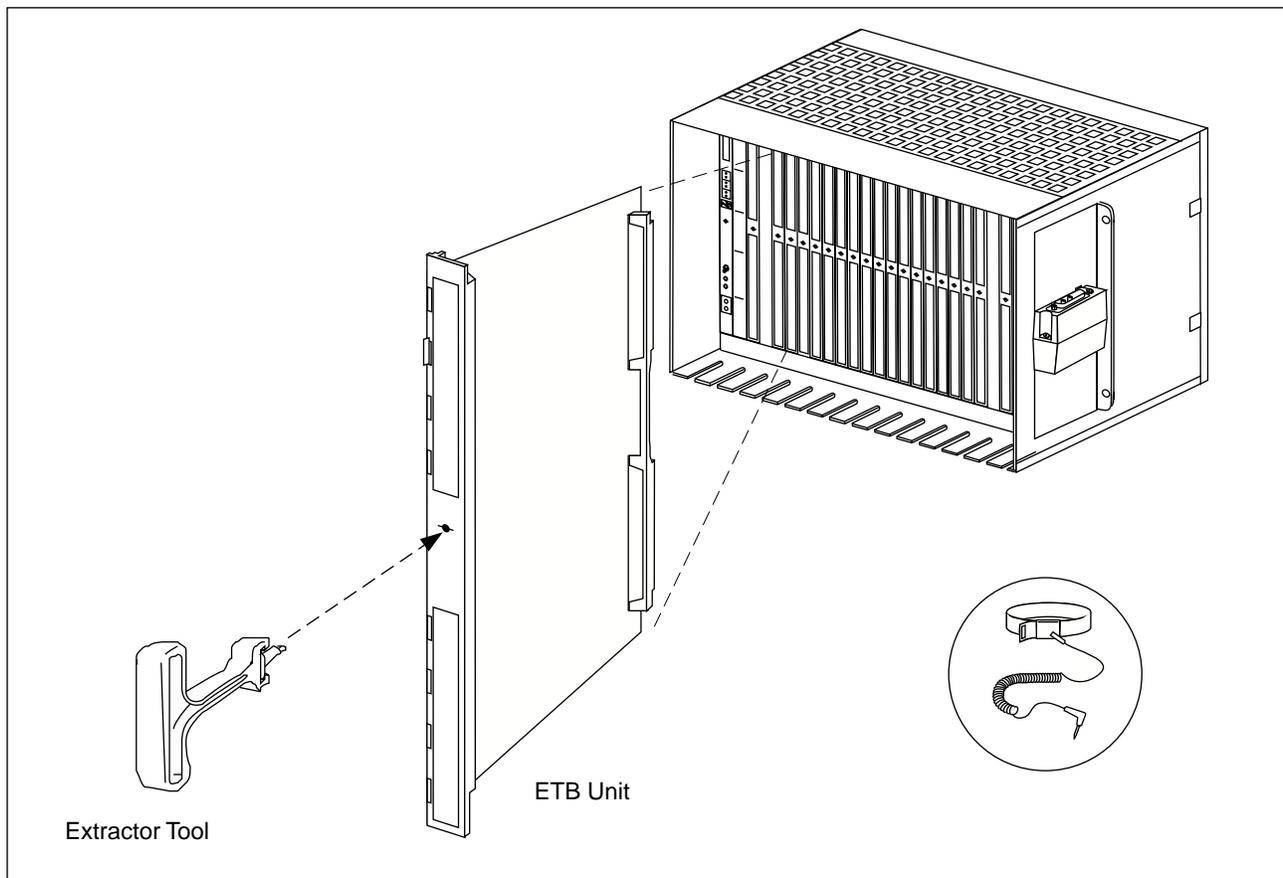

Figure 6-11. ETB Unit Removal
6. At the top of the CRI magazine, carefully press the plastic retaining catch upwards and use the extractor tool to remove the ETB unit from the CRI magazine (Figure 6-11 on page 6-36).